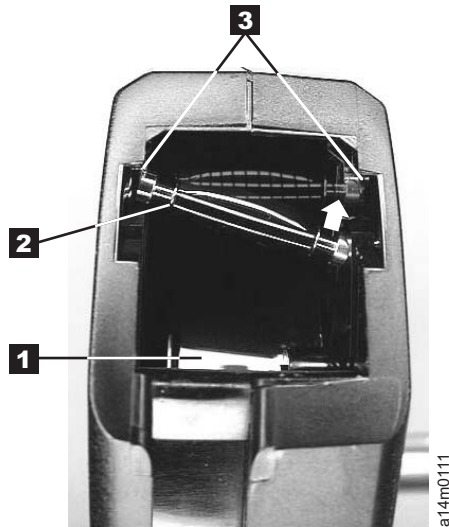

Figure 67. Placing the dislodged leader pin into the correct position.. The cartridge door is open, showing the leader pin out of position
1. Slide open the cartridge door (see **1** in Figure 67 on page 263) and locate the leader pin **2** (you may need to shake the cartridge gently to roll the pin toward the door).